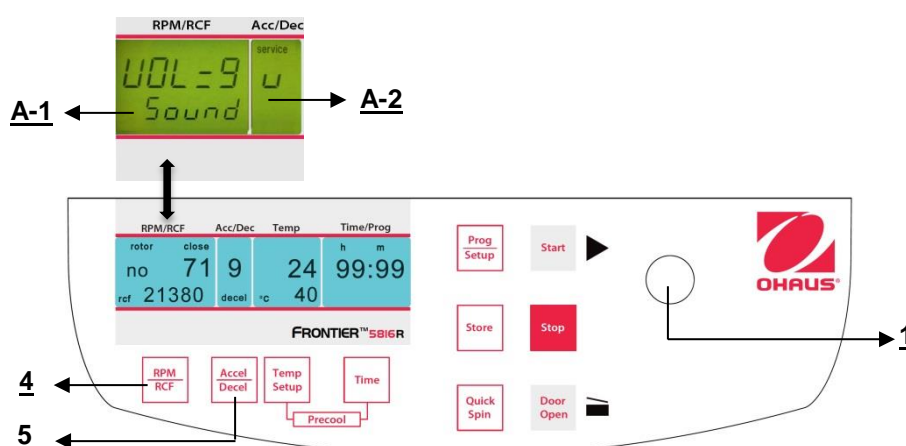

Figure. 33
Proceed as described under point 4.1.1 to enter this program mode and then press the key **"Accel/Decel"** (5). In the display **"Acc/Dec"** (A-2) the word **"Service"** flashes. Now select the letter **"U"** with the adjusting knob (1). As a result, in the display **"RPM | RCF"** (A-1) the words **"Vol=0- 9/Sound"** appear. After pressing the key **"RPM | RCF"** (4), you can adjust the desired volume between 0 (low) and 9 (loud) with the adjusting knob (1) (See figure 33).